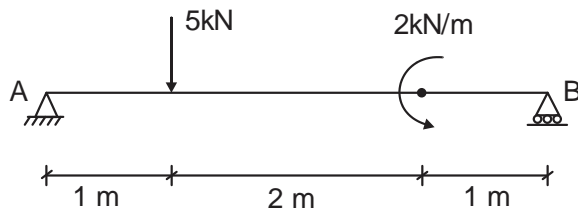

Fig. 2
2. Find slope at supports and deflections at C and D for the simply supported beam shown in fig.2 By conjugate beam method Take $E = 2 \times 10^5 \text{ MPa}$ $I = 4 \times 10^7 \text{ mm}^4$. 10